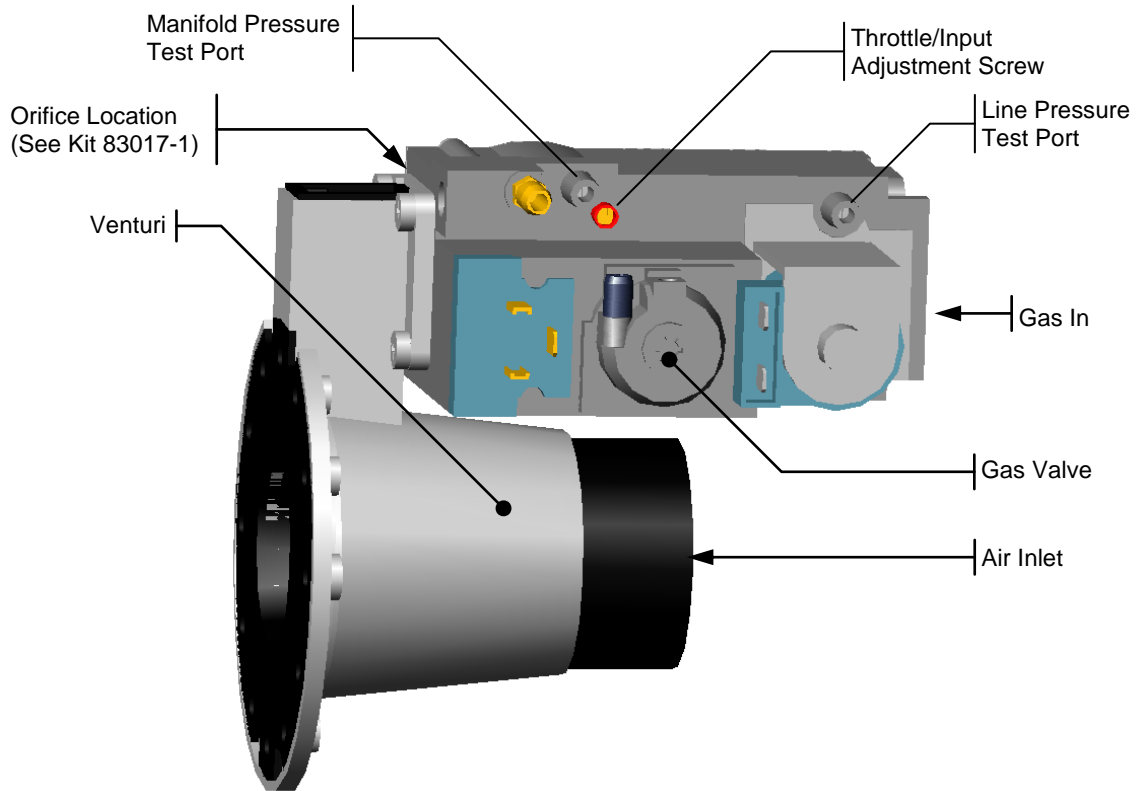

Figure 9-4 Gas Valve and Venturi Assembly (Lx500)
**Lx500 Adjustments** - The throttle screw for the Lx500 is a multiple turn valve. Typical adjustment required for Natural Gas is 0-1 full turns in or out from the factory setting. To adjust combustion for Propane Gas, turn the throttle screw all the way in (clockwise until it stops), then turn the throttle screw out (counterclockwise) 4-1/2 turns and set with a combustion analyzer. See Figure 9-4 for throttle screw location.